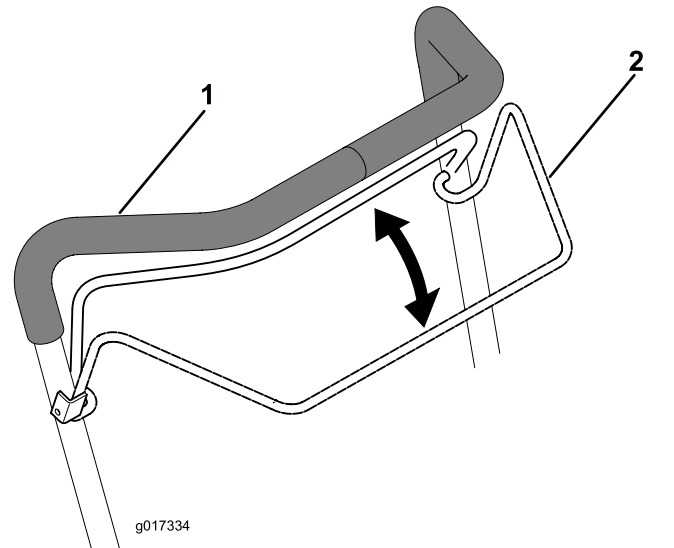

Figure 13
3. Hold the operator-presence control against the handle (Figure 13).